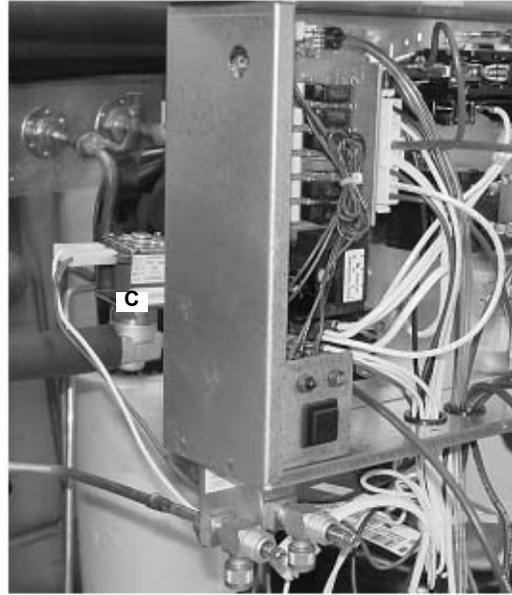

Figure 50.
53. Connect the hot gas harness (C) (white and red leads) to the hot gas valve (Figure 50).